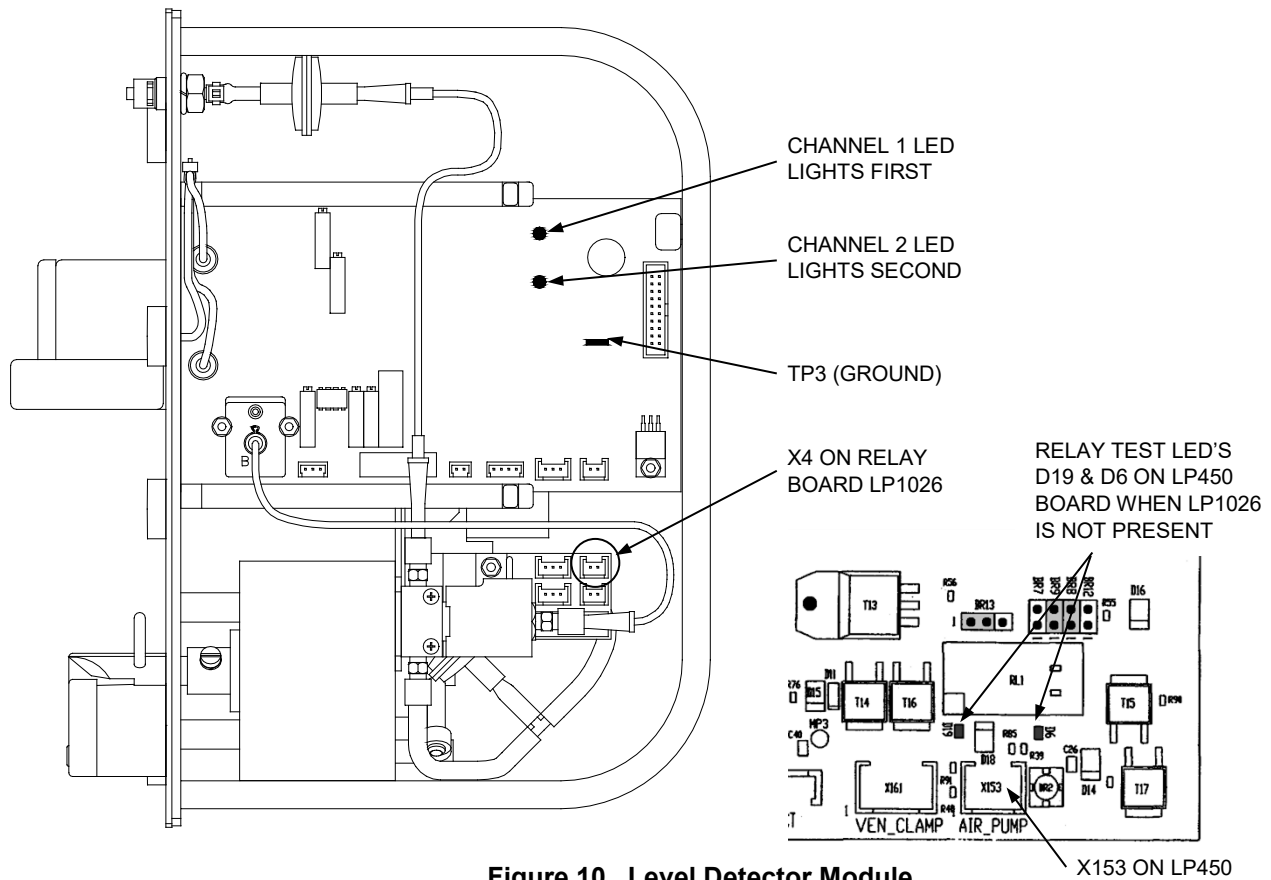

Figure 10. Level Detector Module.
3. Position the Level Detector so you can watch the Channel 1 and Channel 2 LED's on the circuit board (See Figure 10).
2. Locate the relay test LED's D6 and D19 on the LP450 board (see Figure 10).
Note: If LP450 does not have relay test LED's then locate a separate relay board LP1026 (see Figure 10). LP1026 test LED's are D3 and D4.